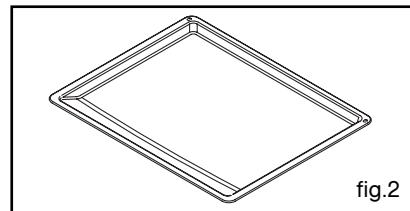

fig.2
• Multifunctionele ovenschaal (fig.2)